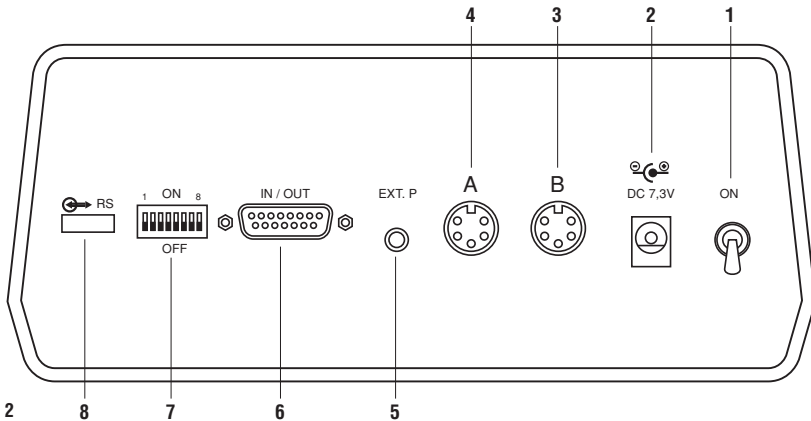

Fig. 2
- Connect the charger appropriately (**2**, Fig. 2), and then plug it to the mains (230 V or 115 V for US).
- Connect each probe (**3** and **4**, Fig. 2).
- Turn the instrument ON using the power switch (**1**, Fig. 2).